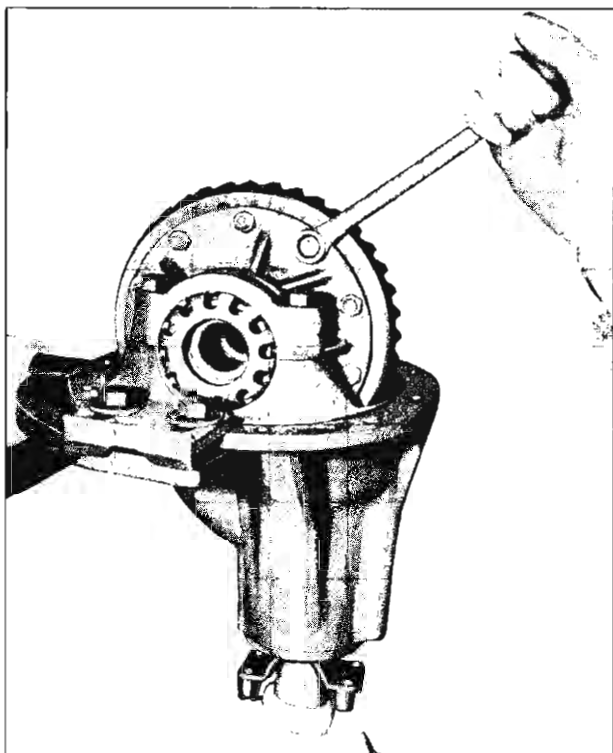

Fig. 33—Developing Tooth Pattern
4. Using a $\frac{9}{16}$ " box wrench on the ring gear bolts, rock the ring gear back and forth, shifting bolt heads to develop a contact pattern on the teeth of the ring gear (fig. 33).